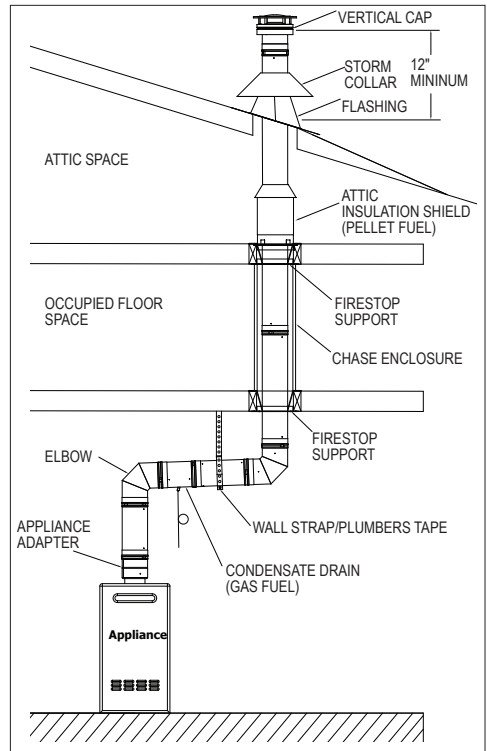

Figure 8
5. Install Attic Insulation Shield. If your appliance utilizes pellet fuel and the vent system is unenclosed and run through an attic, you must install an attic insulation shield to ensure required clearance to combustible materials (**Fig.8,9**).